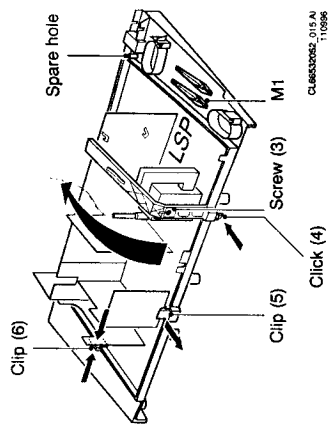

Figure 4.3
### LSP component side (Figure 4.3)
1. Break the service pin (marked M1 - see Figure 4.3) from its position at the right hand side of the bottom plate.